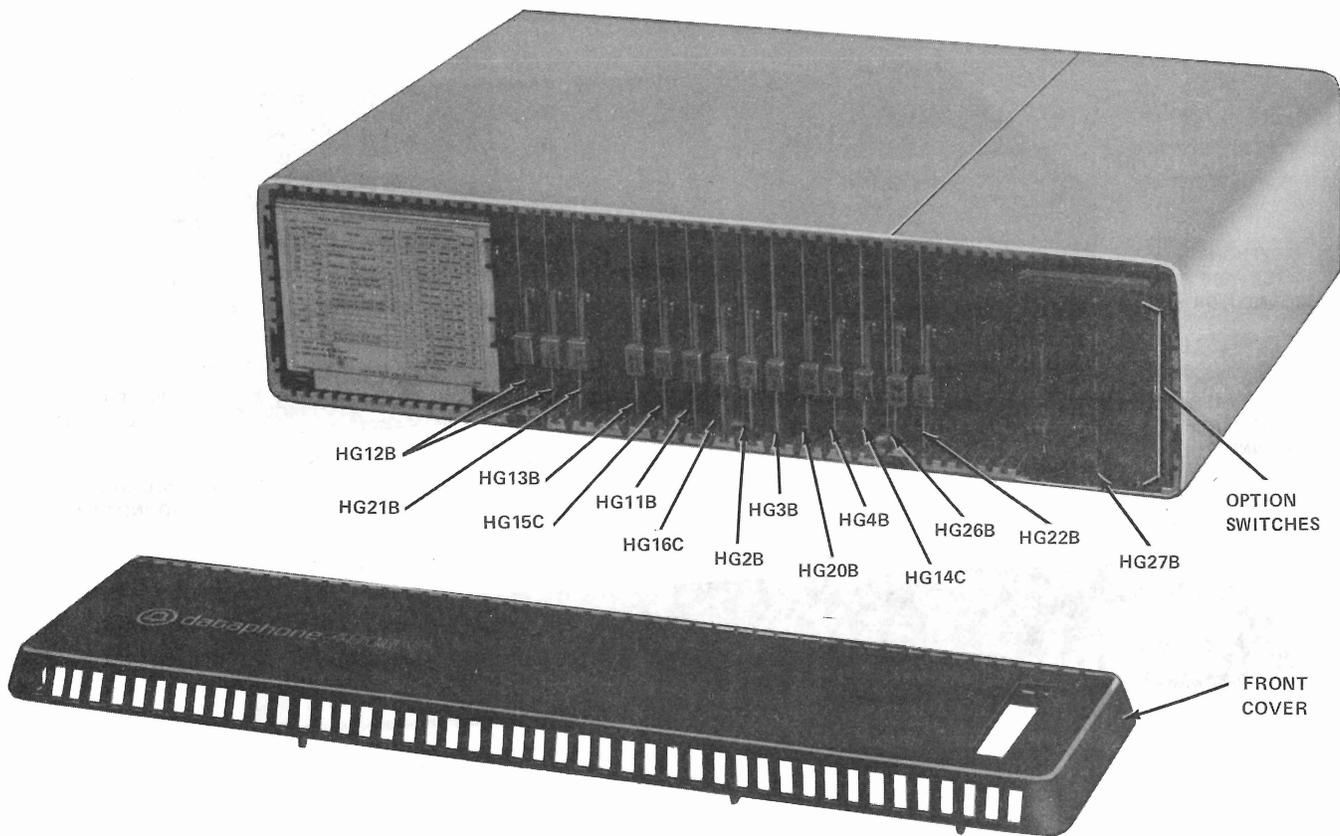

Fig. 4—Data Set 208BR-L1C—Front View With Cover Removed
2.04 A front view of DS 208BR-L1C with plastic cover removed is shown in Fig. 4. Option switches, data set status lamps, and test switches are shown. A summary of the CPs used in the DS 208BR-L1C is presented in Table A. Methods used for installing and removing options are explained in detail in Section 592-038-200.